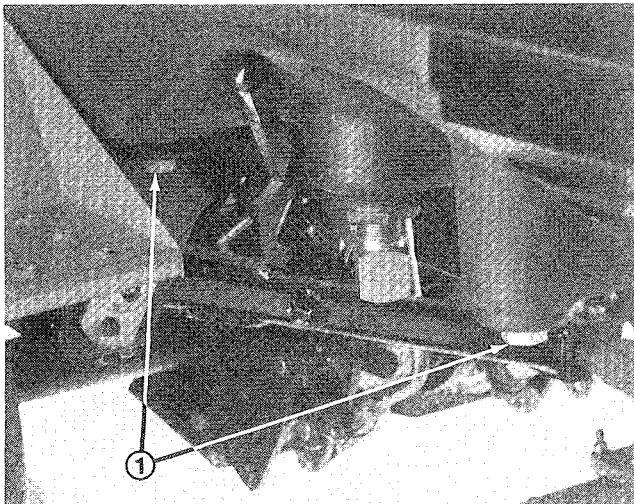

Figure 46
### CHANGING HYDRAULIC OIL (Fig. 46 & 47)
2. Remove drain plugs (Fig. 46) from both ends of reservoir and let hydraulic oil flow into drain pan. Reinstall and tighten plugs when hydraulic oil stops draining.